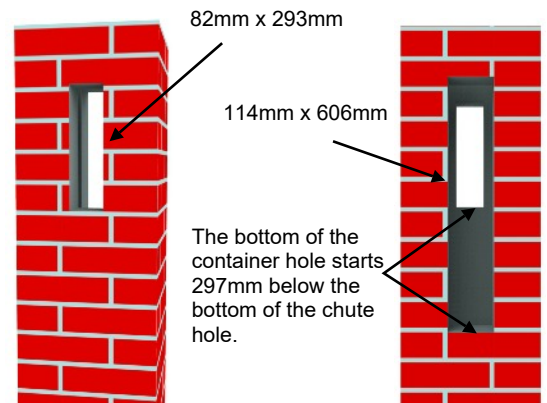

Fig 5
- Cut a hole 293mm high by 82mm wide at the required location for the letter plate in the front of the pier. This allows a 2mm tolerance around the chute. *Fig 5*.